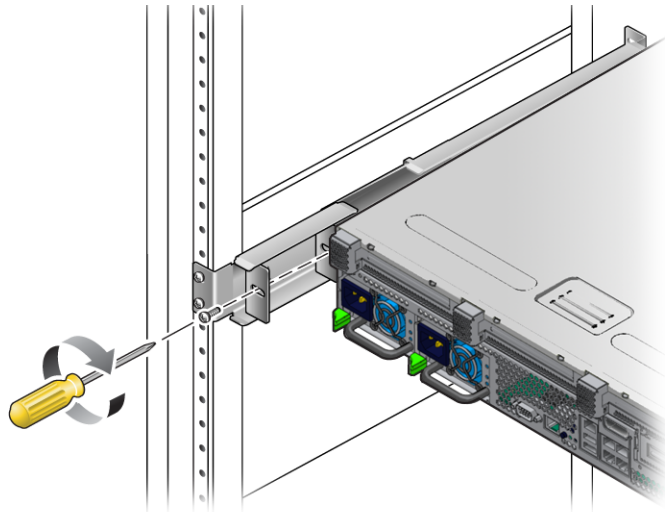

FIGURE 3-21 Securing the Rear of the Server to the Rear Flanges
16. Push the server backward until it rests flush against the rear flanges, then use one $M5 \times 10$ SEM screw for each rear flange to secure the rear of the server to the rear flanges (FIGURE 3-21).